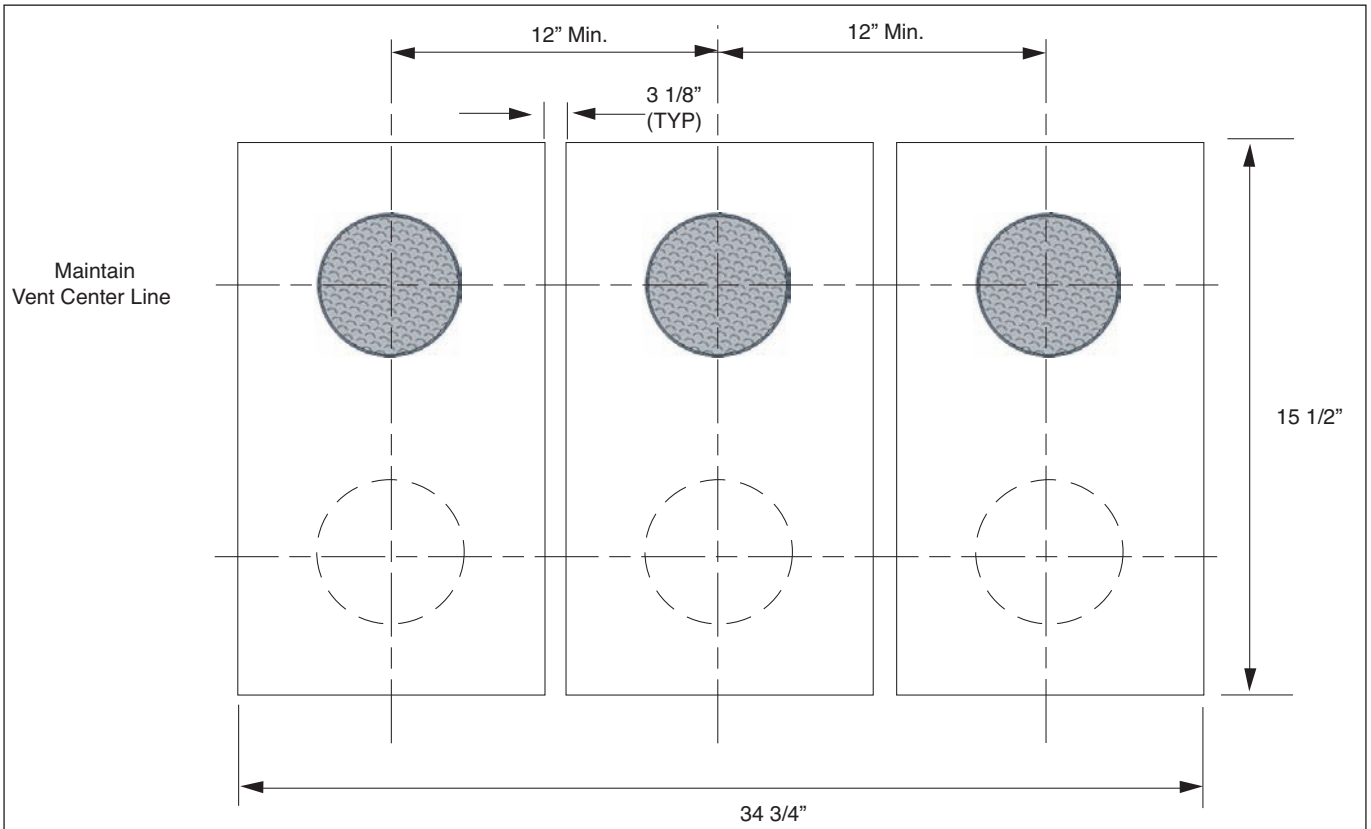

**Fig. 4: Exterior Assembly of Termination**
9. Install the termination screening onto the exterior back plate as shown in Figure 4. Using a slight twisting motion install the termination faceplate with the vent pipe inserted into the vent coupling.